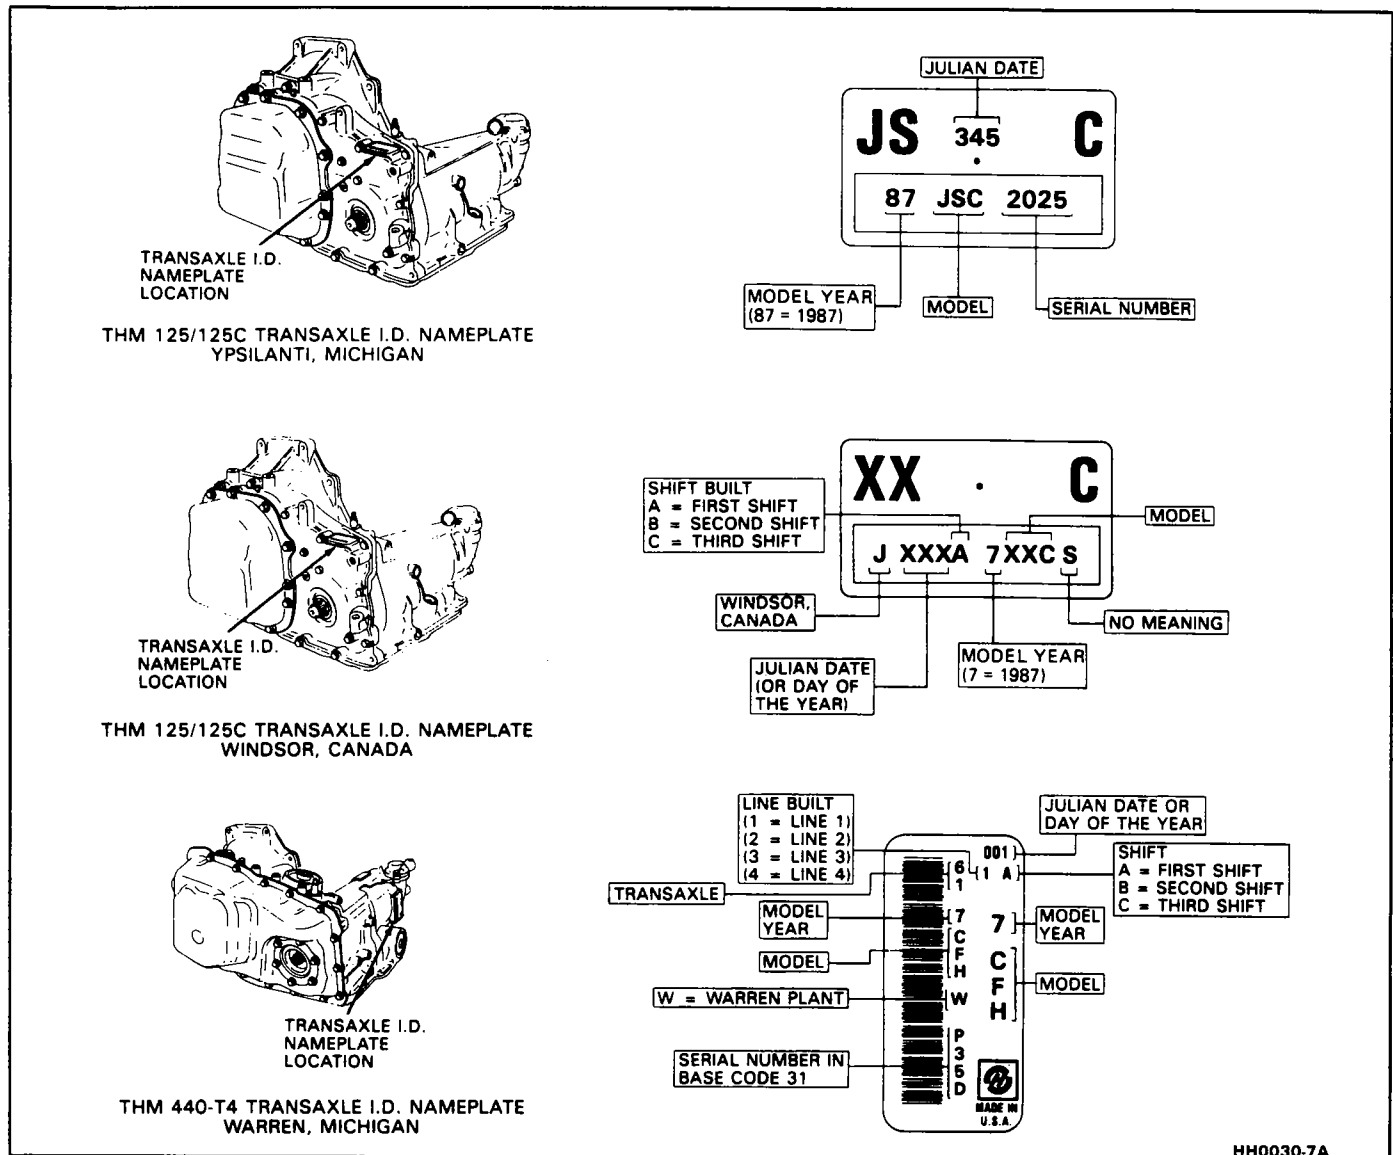
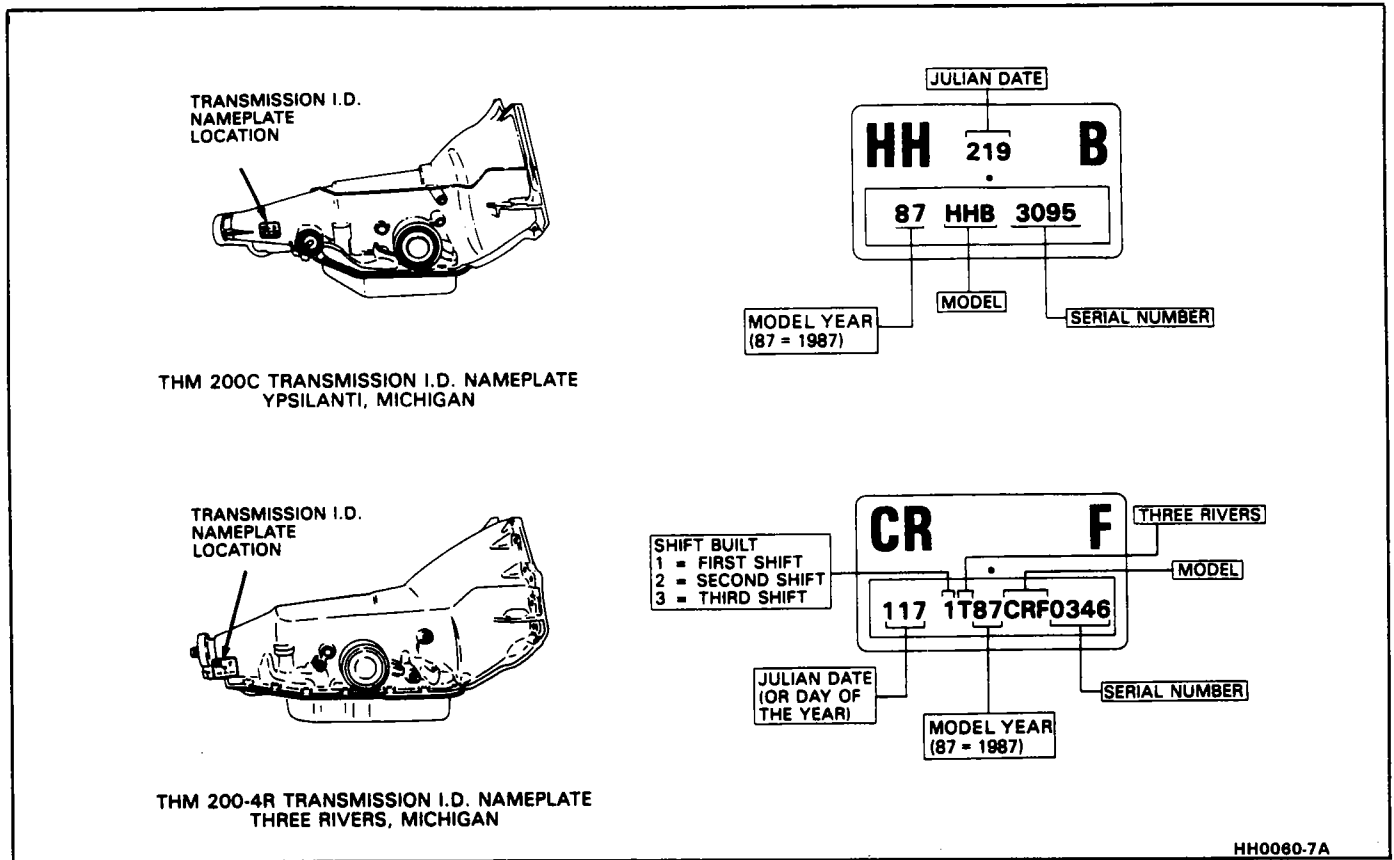

Figure 1 Transaxle Identification Information
Figure 2 Transmission Identification Information
*See Figures 1 thru 3*
All automatic transmission/transaxles have a metal identification nameplate attached to the case exterior. The location of this name plate is shown in Figure 1 and Figure 2. The information on the nameplate will assist in the servicing and determination of replacement parts when ordered through a GM Parts Catalog.